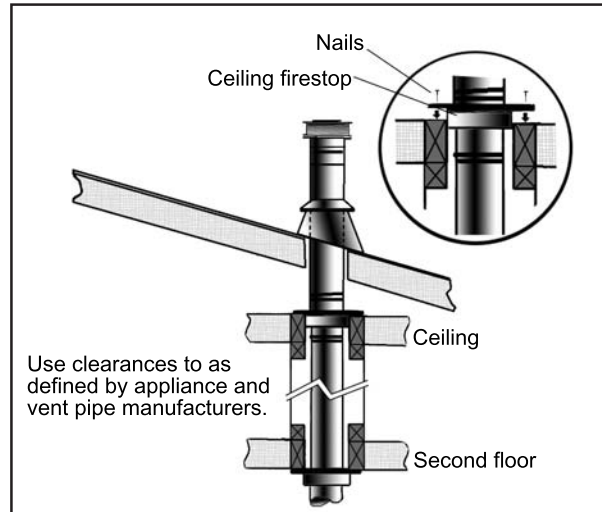

Figure 33: Multi-Story Vent Pipe Installation.
- For multi story installations. A ceiling firestop is required at the second floor, and any subsequent floors (see Figure 33). The opening should be framed to 10" (25.4 cm) x 10" (25.4 cm) inside dimensions, in the same manner as shown in Figure 29.